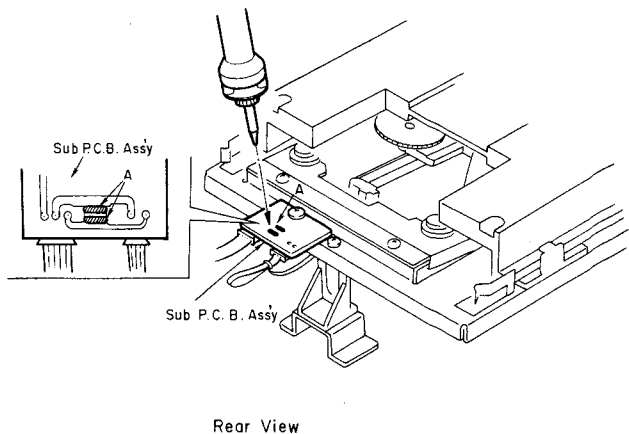

Fig. 2.4.1
Refer to Figs. 2.4.1 and 2.4.2.
- (1) Remove the Top Cover Ass'y referring to item 2.1.
- (2) Remove the Disc Tray Cover Ass'y referring to item 2.2.
- (3) Short the lands "A" on the Sub P.C.B. Ass'y which is mounted at the back of the Disc Mechanism Ass'y. See Fig. 2.4.1.
- (4) Remove soldering of the lands A on the Sub P.C.B. Ass'y at the back of the Disc Mechanism Ass'y. See Fig. 2.4.1.